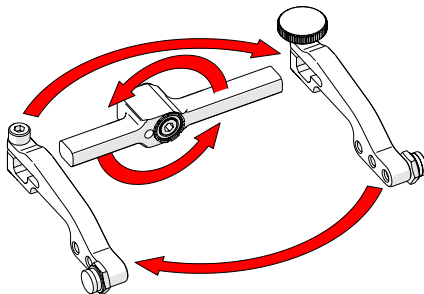

Fig. 80 - Flip yoke and reverse arms
4. Flip the yoke 180° and reverse the probe holder arms (Fig. 80).